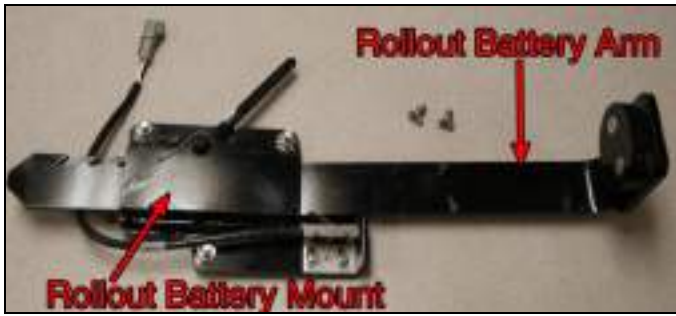

Figure 3-19: Rollout Battery Arm Bar
6. Install the rollout battery arm bar, or the truck will not operate. See Figure 3-19.